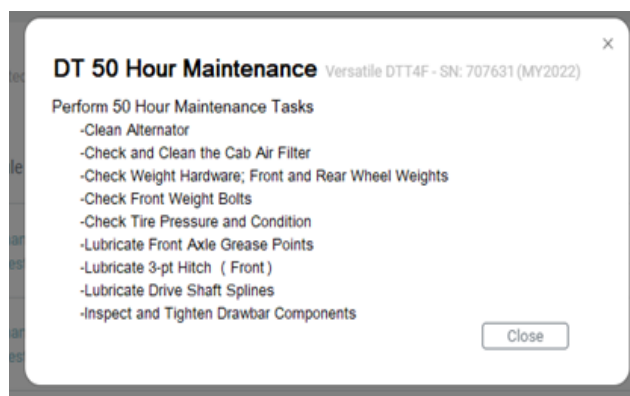

Figure 5-59 Detailed Maintenance List
- May link to specific instructions where applicable (see figure 5-59).